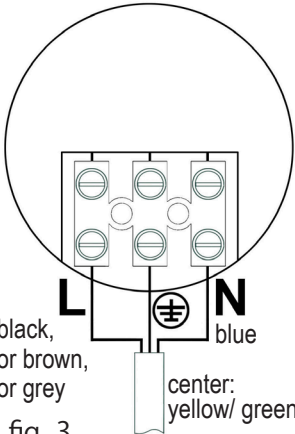

fig. 3
4. **fig. 3:** Prepare the current-less cable in according to statutory regulations. Connect the wires according the marks.